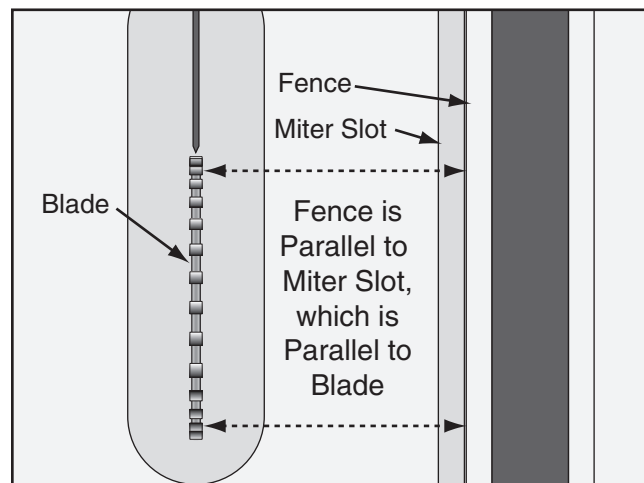

Figure 16. Checking fence parallelism with blade.
23. Slide fence against right-hand edge of miter slot and lock it in place. Examine how fence lines up with miter slot and miter slot lines up with blade (see **Figure 16**).